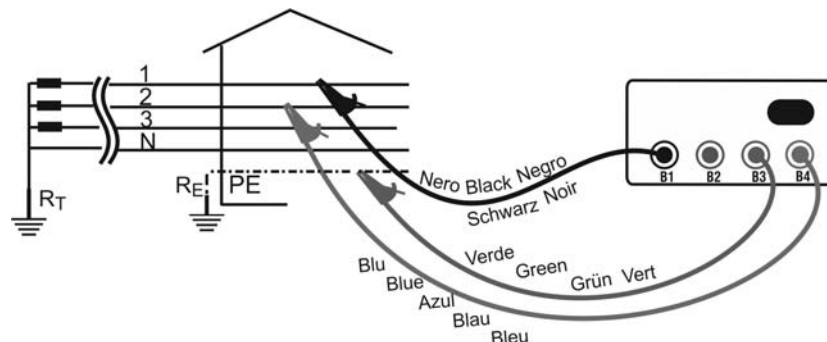

Fig. 9: Instrument connection for measuring Phase-Phase impedance
3. Insert the alligator clips onto the conductors of the three-phase system (see Fig. 9)